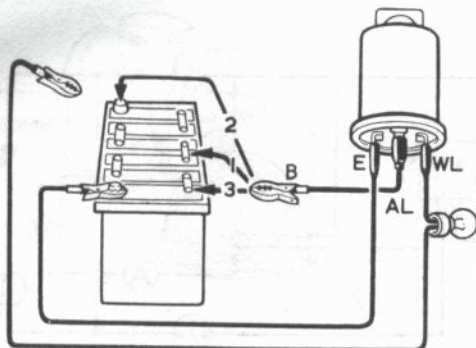

FIG 12:18 Warning light control test
- 2 After soldering, tack the connections down with 3M.EC.1022 adhesive so that the layout appears as shown in FIG 12:15 and gives adequate clearance for the rotor.
Key to Fig 12:18 Connect battery clip 'B' in sequence 1, 2 and 3